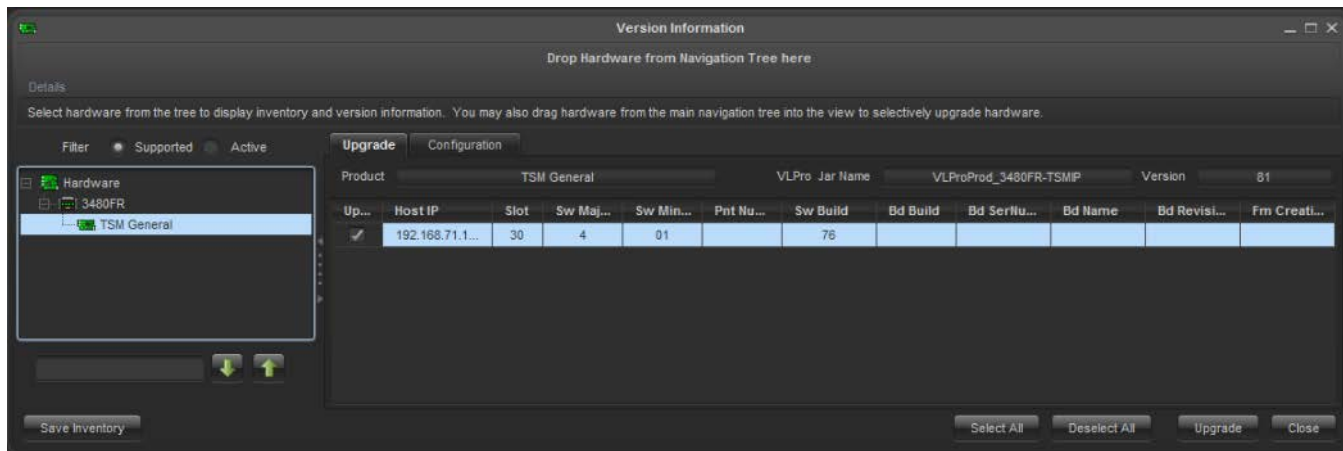

Figure 5-4 : VistaLINK® PRO - Check mark the hardware for update
- **Check mark** the box beside the card for upgrade. (Figure 5-4)